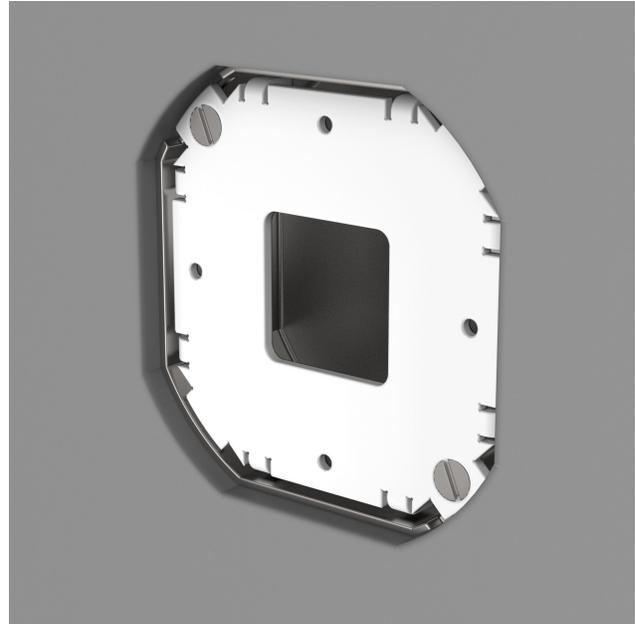

Figure 2
- With mudding plate secured to electrical box, plate should be at least ¼" deep in wall. (Figure 2)